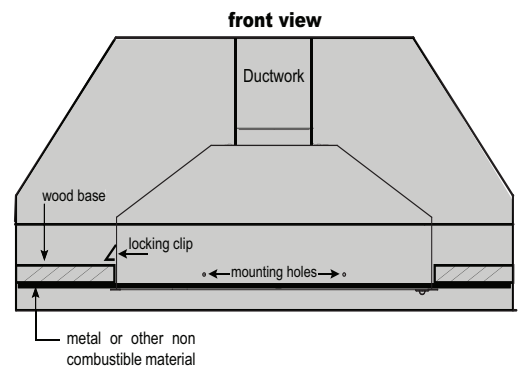

FIG 2
4. Lift Power Pack into opening and ensure locking clip has locked into position. (locking clip is located on left side of Power Pack. **FIG 2**